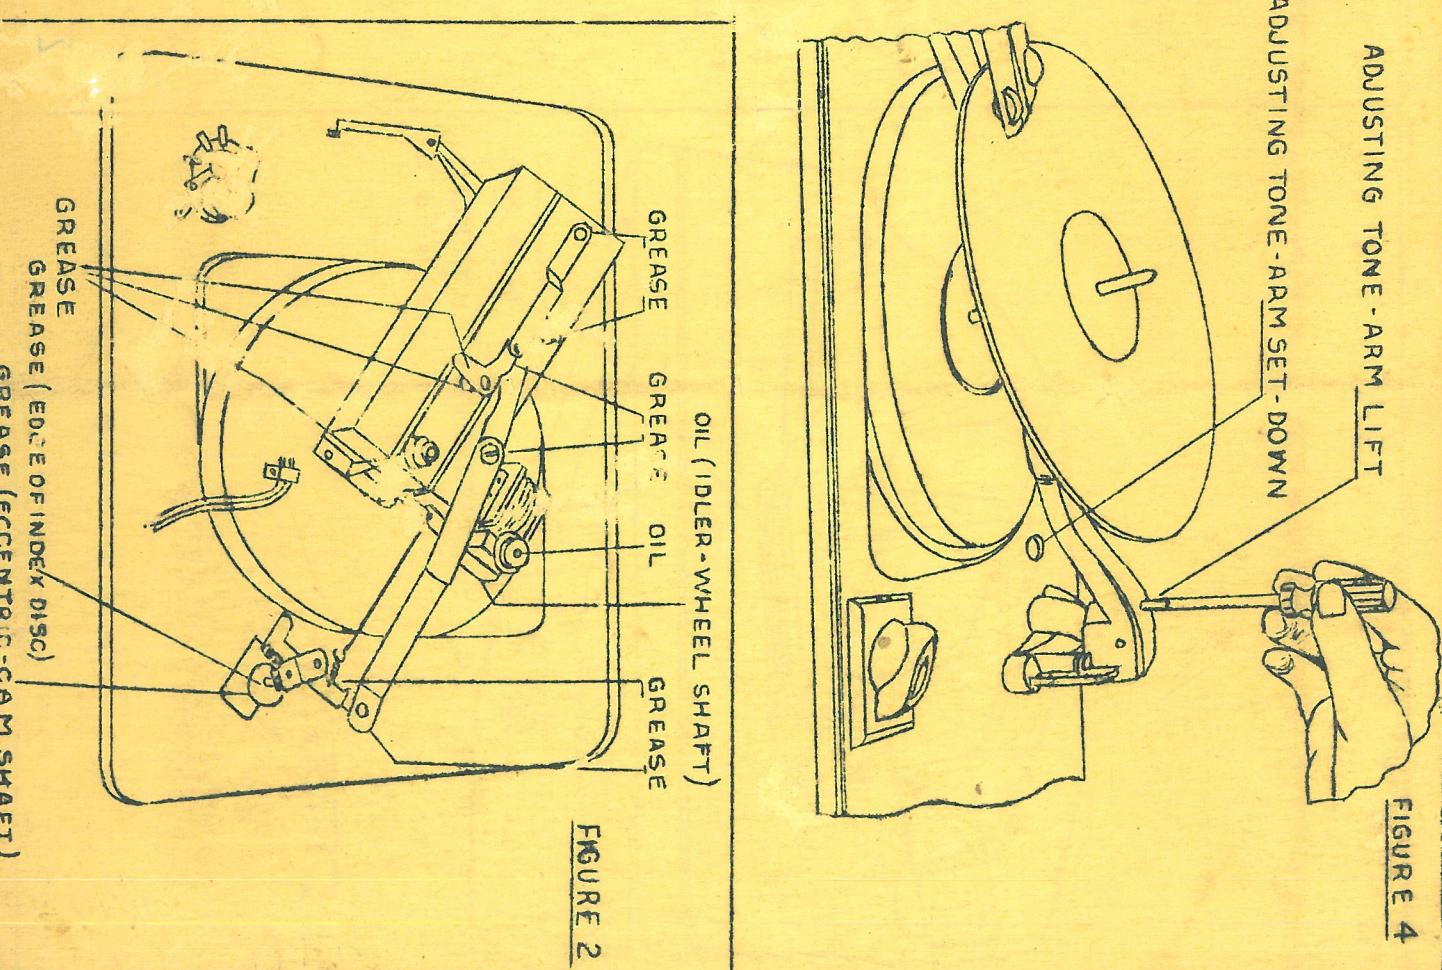

FIGURE 4
**TONE-ARM LIFT ADJUSTMENT:** (Fig. 4).
Set the record shelf for 10 inch operation. With the master control switch OFF, manually trip the changer by lightly pushing the solenoid plunger into the coil. Swing the tone arm in near the spindle. Revolve the turntable one turn by hand. Place a 10 inch record onto the record shelf and spindle. Position the tone arm so that the needle point is approximately  $1\frac{1}{2}$  inches from the centre of the spindle. In this position, the tone arm is at maximum height and should clear the bottom of the record by  $1/16"$  to  $1/8"$ , and the needle point should clear the turntable by approximately  $1\frac{1}{2}$  inches. Adjust for correct clearance by turning the adjustment screw through a hole at the top and rear of the tone arm, as shown in fig. 4. Turning the screw clockwise raises the arm: counter-
Set the changer for 10 inch operation. Place a 10 inch record in position and start a change cycle. Shut off the changer and stop the turntable when the jewel lowers to approximately 1/4 inch above the record. An eccentric screw, reached through a slot in the changer base plate near the tone-arm mounting, provides the adjustment. See fig. 4. Adjust so that the jewel will lower onto the record 1/8 inch from the edge.